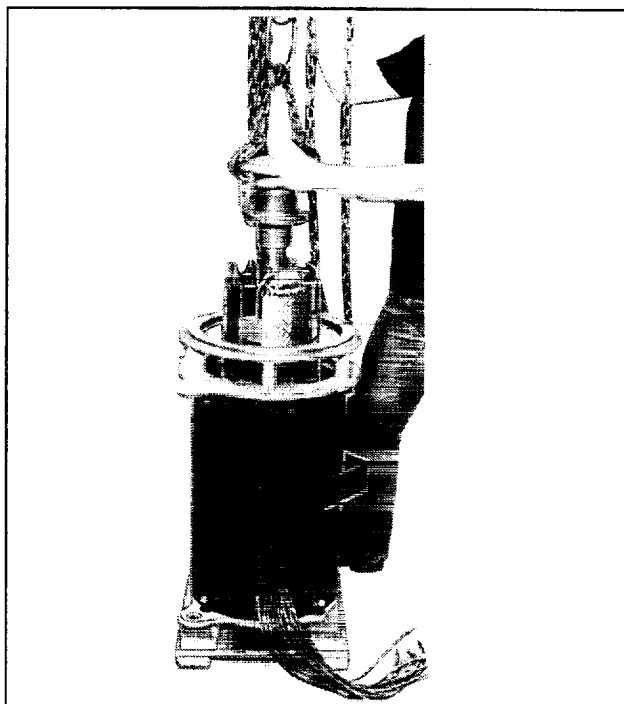

Figure 4. Hoisting Rotor Assembly
11. Fasten lifting eye and hoist hook to rotor flange. Hoist rotor while being careful to avoid damaging exciter field magnets. See Figure 4. Lower rotor and remove lifting eye and hoist hook. Remove screws securing photo transistor board. Retain screws for installation of new photo transistor board.